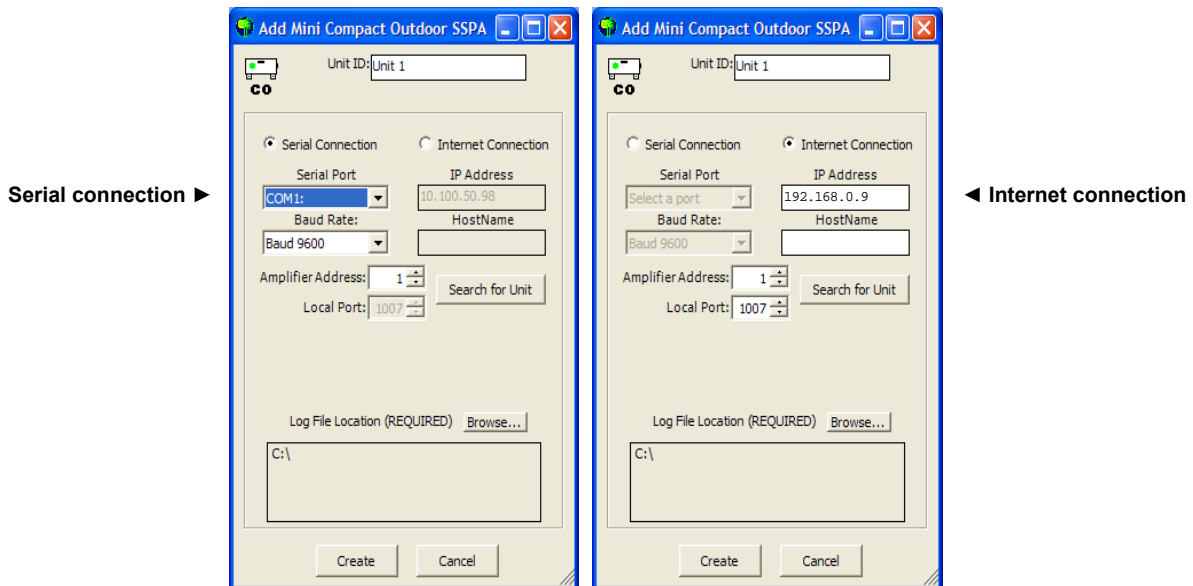

Figure 3-8: Add Compact Outdoor SSPA window, via Serial (left) or Internet (right)
3. A new dialog window will open (see **Figure 3-8**). Enter the following information where applicable: Unit ID; if using a RS-232 Connection, the Serial Port and Baud Rate; or if using an Ethernet Connection, the unit's IP Address.